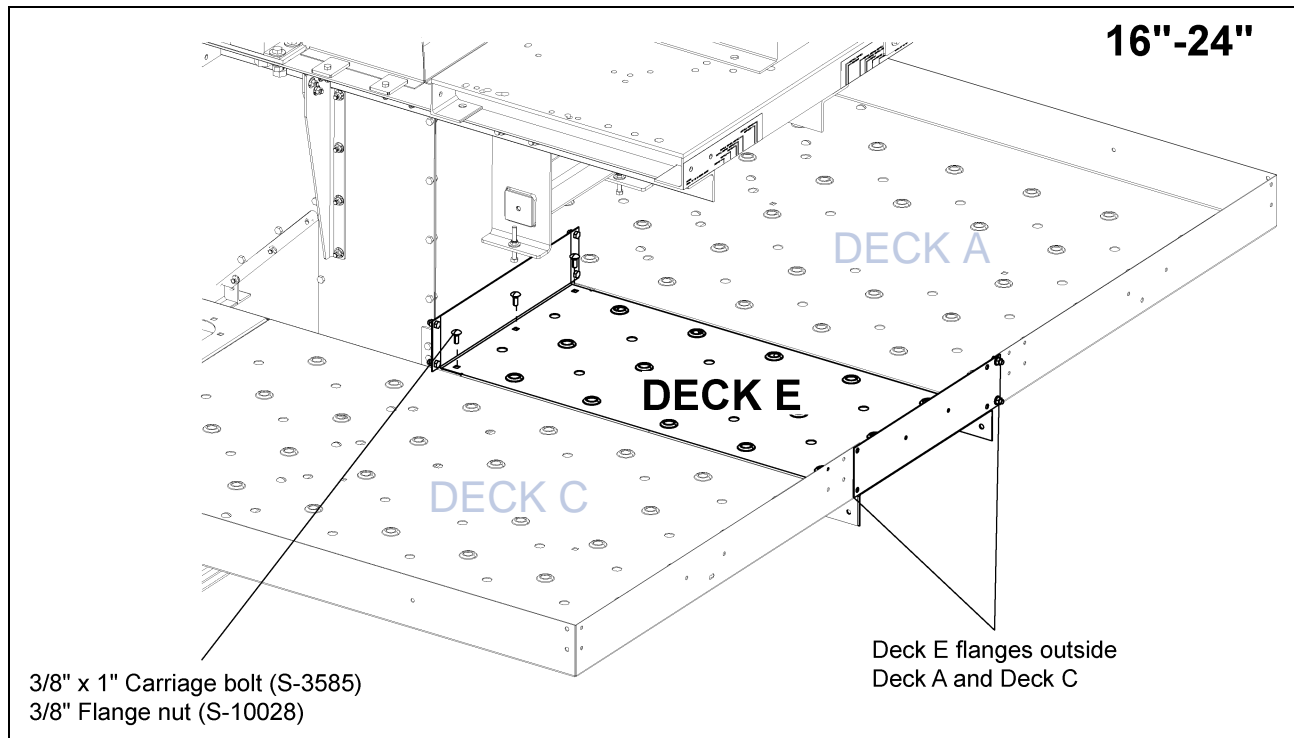

Figure 7I 24" Deck E to Support Channels
- Using 3/8" x 1" carriage bolts (S-3585) and 3/8" flange nuts (S-10028), connect Deck E to main support channel. **IMPORTANT:** Connect every hole. (See Figure 7I.)